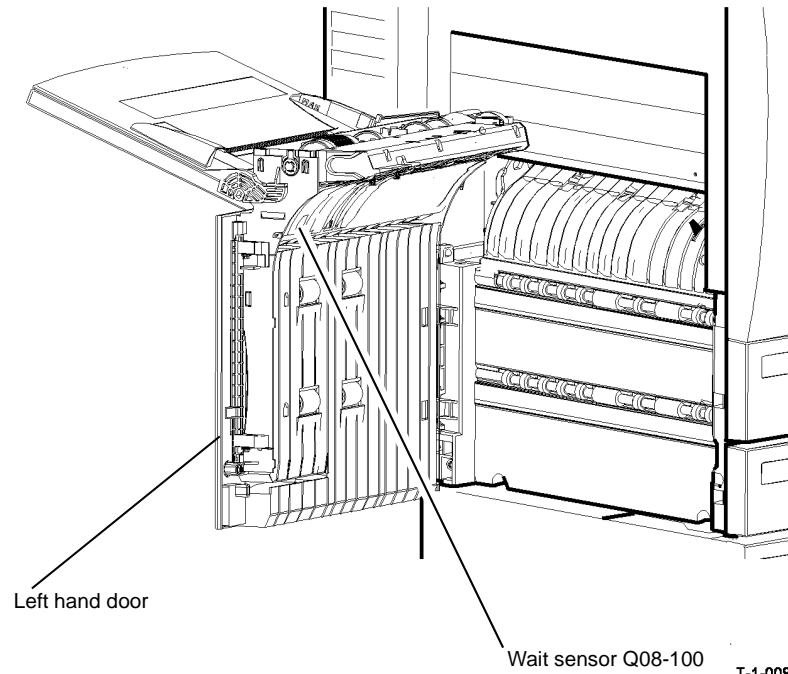

Figure 2 Component location
Open the left hand door and manually actuate the wait sensor, Figure 2. **The display changes.**
Enter dC330 code 08-100 wait sensor, Q08-100. Press Start. Manually actuate the wait sensor, Figure 2. **The display changes.**
- Check that the left hand door is correctly latched, Figure 2.